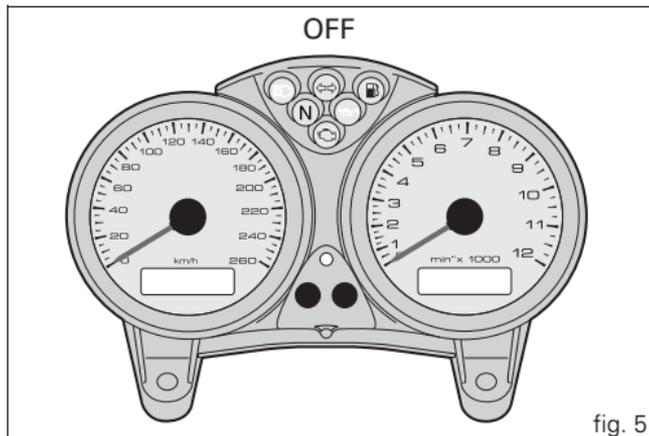
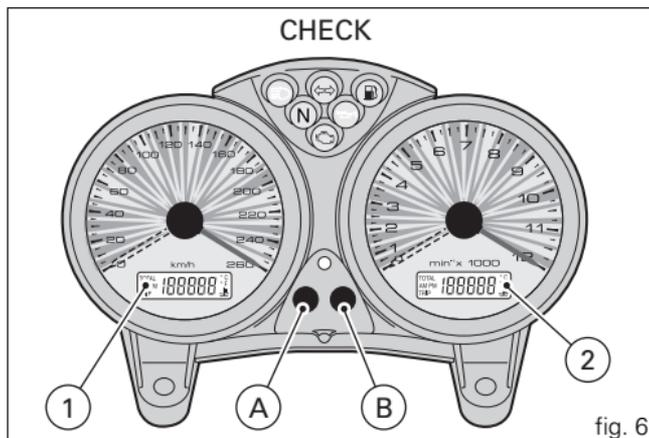

fig. 5
fig. 6
When the engine is switched on (key turned from **OFF** to **ON**), the instrument panel checks all instruments (dials, display, warning lights), see (fig. 5 and fig. 6).
By pressing button (A, fig. 6) with the key turned to ON, you can cycle between display of the trip meter and the odometer and, if the fuel level warning light is on, the fuel reserve trip meter (latter function).
If button (A, fig. 6) is held pressed for more than 2 seconds while the **TRIP** (trip meter) is active, the display is reset (LCD 1).
If button (B, fig. 6) is pressed with the ignition key at ON, the display shows the clock and the oil temperature.
Press (B, fig. 6) for at least 2 seconds and the time will be shown in display (2, fig. 6).
Select AM/PM by pressing button (A, fig. 6). Press button (B, fig. 6) to select the hour setting function. Press (A) repeatedly to change the hour indication. Press button (B) to change to the minute setting function. Press button (A) to increase the minutes; hold the button pressed for more than 5 seconds to increase the rate of change. Press button (B) to exit the clock setting function.
When the fuel level warning light the word “FUEL” will appear on display (2, fig. 6) and the fuel reserve trip meter function will be activated and indicate on display (1, fig. 6) the number of kilometres travelled in reserve preceded by the letter “F” (FUEL).
The appearance of the message “MAInt” on the display (1, fig. 6) indicates that the recommended service interval has expired: this message will be displayed each time the key is turned to “ON” for a period of 5 seconds. When you see this message, you should contact your Ducati dealer or authorised service centre.
Press button (B, fig. 6) within 5 seconds after the ignition key is turned to the ON position to adjust the brightness of the backlight. The brightness changes at each press of the button.